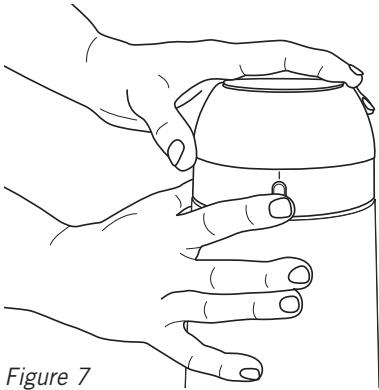

Figure 7
3. Press and hold down the 'UNLOCK' button at the rear of the motor base and with the other hand turn the grind adjustment collar anti-clockwise until it stops and the graphic line on the collar is aligned with the line on the motor base, see figure 7.